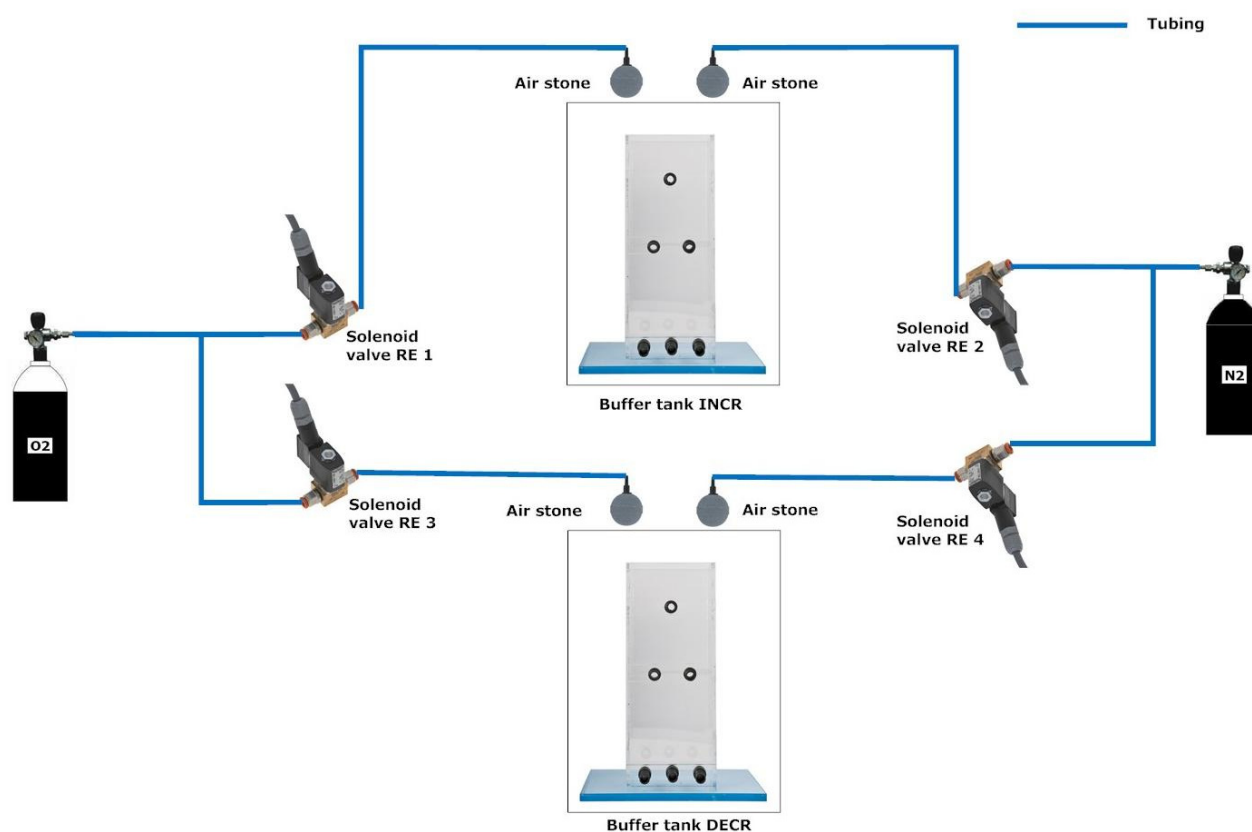

Figure 3: How to connect the buffer tanks with the O_2 and N_2 gas bottles (not supplied) for running a ShuttleBox oxygen experiment.
Connect the O_2 and N_2 gas bottles (not supplied) with the solenoid valves (RE) and air stones using gas tight tubing as shown in Figure 3. Place the air stones in the bottom of the buffer tanks.